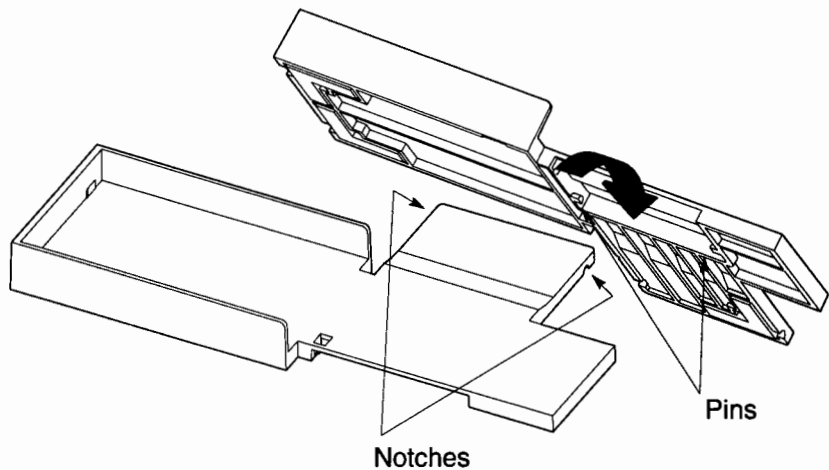

Figure 3–3. Connecting Floor Stands
2. Slide the foot of the storage device stand into the slot in the other workstation or storage device stand, as shown in Figure 3–3. Lock the two notches in the storage device stand foot over the pins on the bottom of the other floor stand. Press down on the overlapping floor stands to lock them together. Repeat this process for any other stands that you wish to connect.